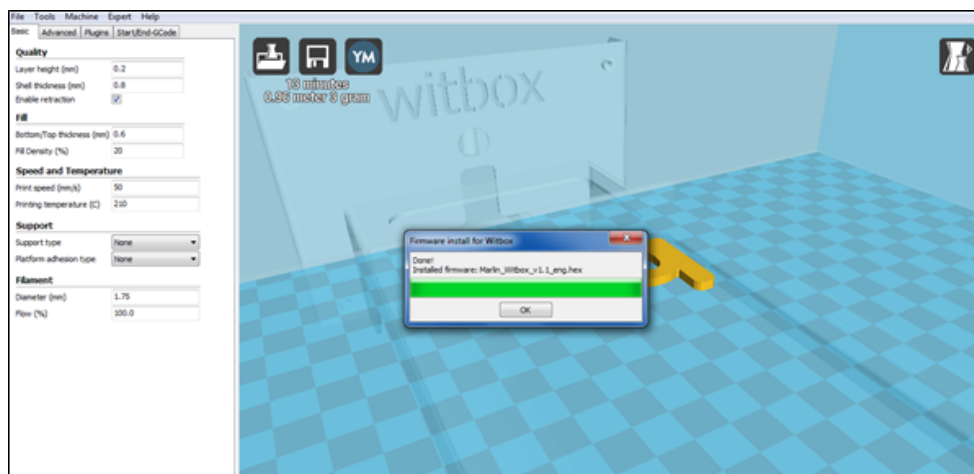

Figure 4.18 Software update complete
- 6 Your printer has now been updated! (fig. 4.18).